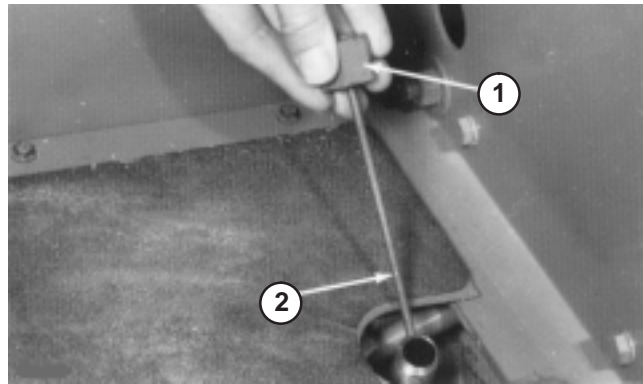

Figure 15
2. Unscrew dipstick cap (Fig. 15) from the filler neck and wipe it with a clean rag. Screw dipstick cap finger tight onto filler neck. Unscrew the dipstick and check level of oil. If level is not within 1/2 inch (13 mm) from the groove in the dipstick, add enough oil to raise level to groove mark. DO NOT OVERFILL by more than 1/2 inch (13 mm) above groove.